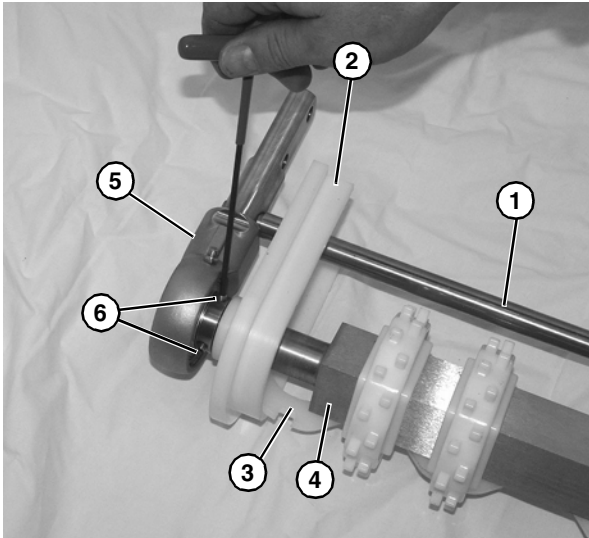

Figure 71
3. Install pinch guard shaft (**Figure 71, item 1**) onto pinch guard (**Figure 71, item 2**).
4. Install pinch guard (**Figure 71, item 2**) onto alignment bar (**Figure 71, item 3**), and onto each side of drive spindle (**Figure 71, item 4**).
5. Install bearing shaft assembly (**Figure 71, item 5**) onto rod (**Figure 71, item 1**) and drive spindle (**Figure 71, item 4**). Slide bearing shaft assembly onto the drive spindle on opposite side.
6. Use a hex wrench to install the two set screws (**Figure 71, item 6**). Use a torque wrench to tighten them to 54 in•lbs (6 N•m). Check after 24 hours of conveyor use.
7. Attach the bearing cover onto bearing shaft assembly (**Figure 71, item 5**).